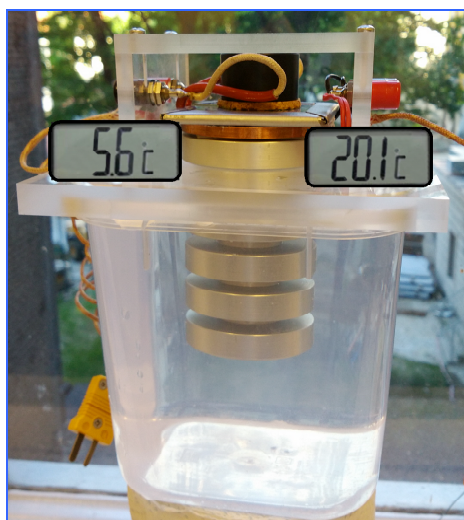

Fig.1. A picture of the measurement setup.
- place the setup in the vessel with water (Fig.1),